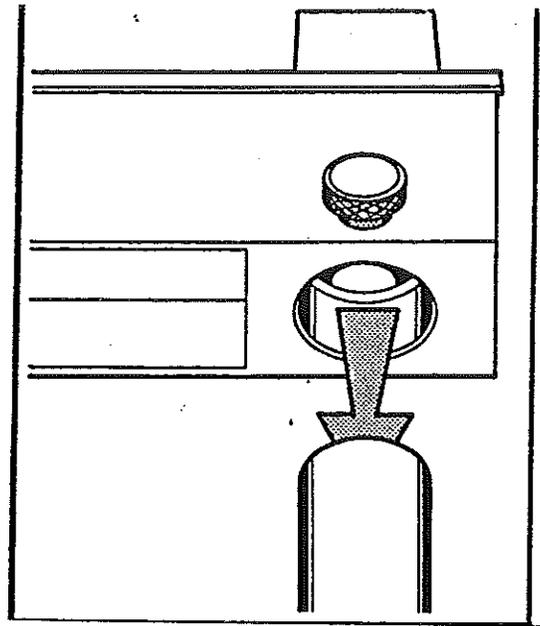

Fig. 5
- (c) Slide the camera onto the Flash Unit. Secure locking knob (moderate pressure) on front right of camera (Fig. 5).